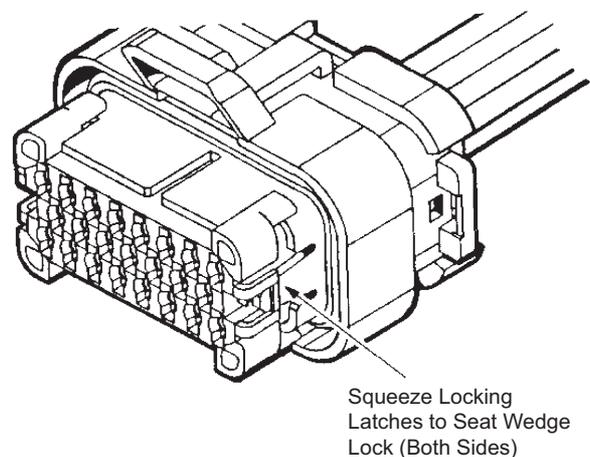

Figure 3
- After all required contacts have been inserted, the wedge lock must be closed to its **locked** position. Release the locking latches by squeezing them inward (see Figure 3).